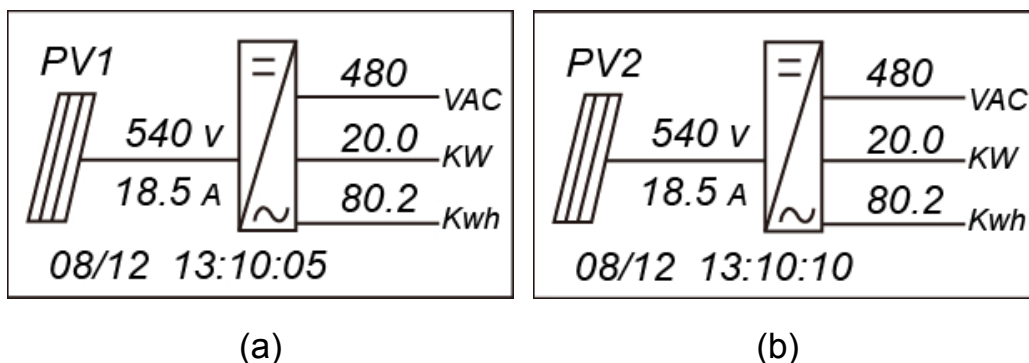

Figure 4-2 Default indication interface for normal operation
(2) Normal operation mode: Default indication interface for normal operation of CPS SC20KTL-DO/US-480 is shown in Figure 4-2 (a) and 4-2 (b). The switching time between (a) and (b) is 5 seconds.